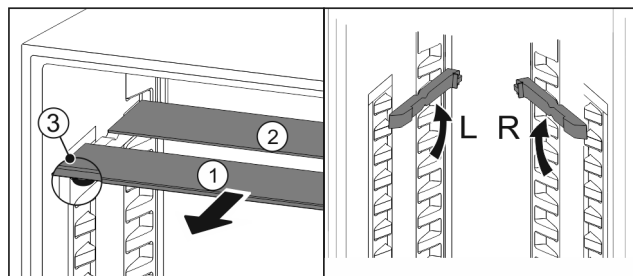

Fig. 84
- Pull the glass panels out Fig. 84 (1) from the front, one at a time.
- The glass panel Fig. 84 (1) and trim strip are at the front.
- The stops Fig. 84 (3) point down.